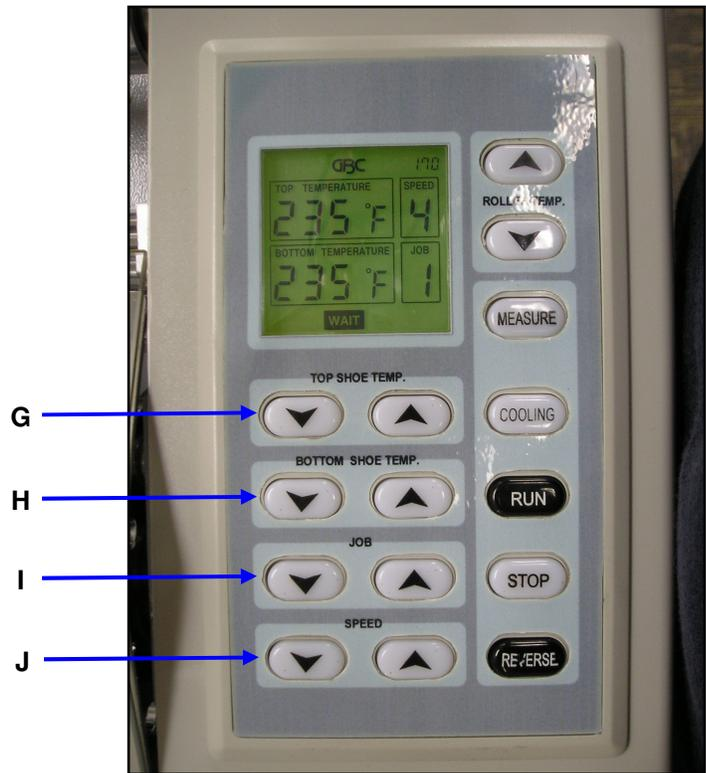

Figure 13
3. FUNCTIONAL ARROWS: (Figure 13)